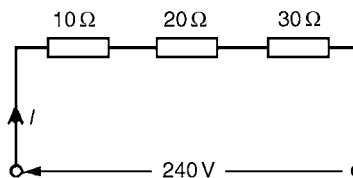

Figure 5.21
- (a) The series circuit is shown in Fig. 5.21